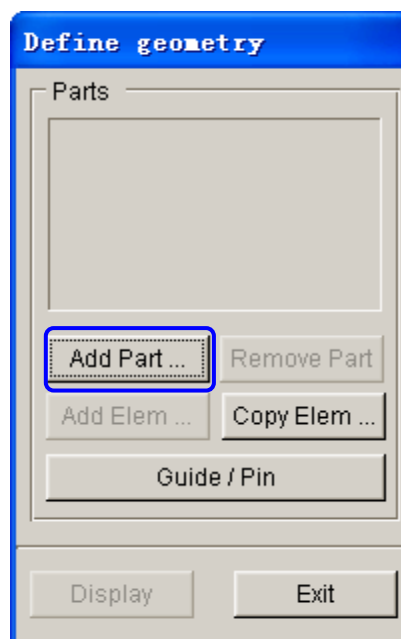

Figure 3.15 Define geometry dialog box
5. The DEFINE GEOMETRY dialog box illustrated in Figure 3.15 is displayed. Next, click the **Add Part...** button in the dialog box.